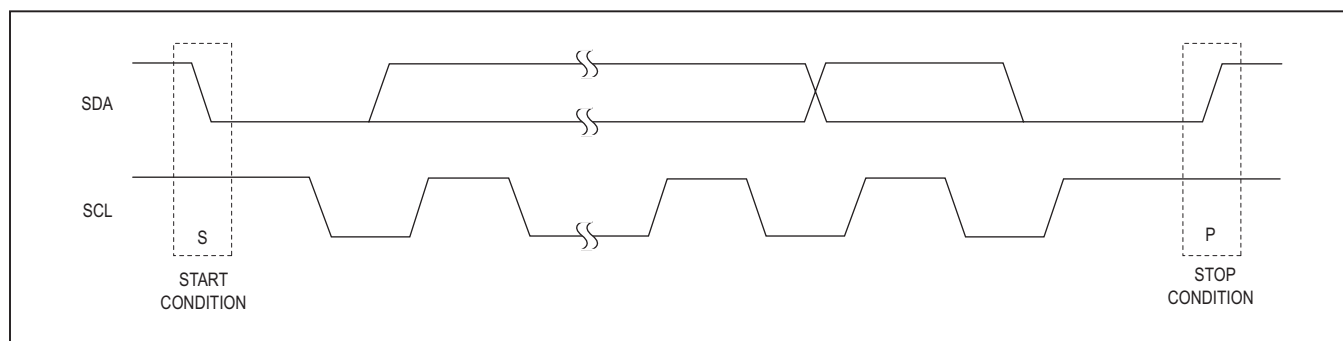

Figure 27. START and STOP Conditions
Both SCL and SDA remain high when the interface is not busy. A master signals the beginning of a transmission with a START (S) condition by transitioning SDA from high to low while SCL is high (see Figure 27). When the master has finished communicating with the slave, it issues a STOP (P) condition by transitioning SDA from low to high while SCL is high. The bus is then free for another transmission.